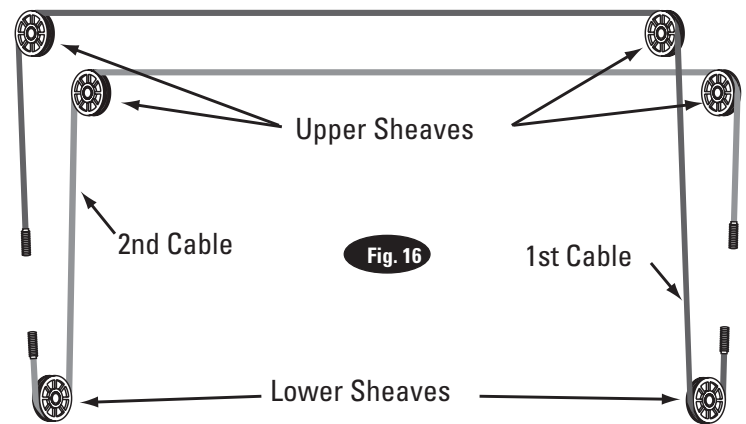

Fig. 16
- A) Refer to Fig. 16 for the general cable arrangement.